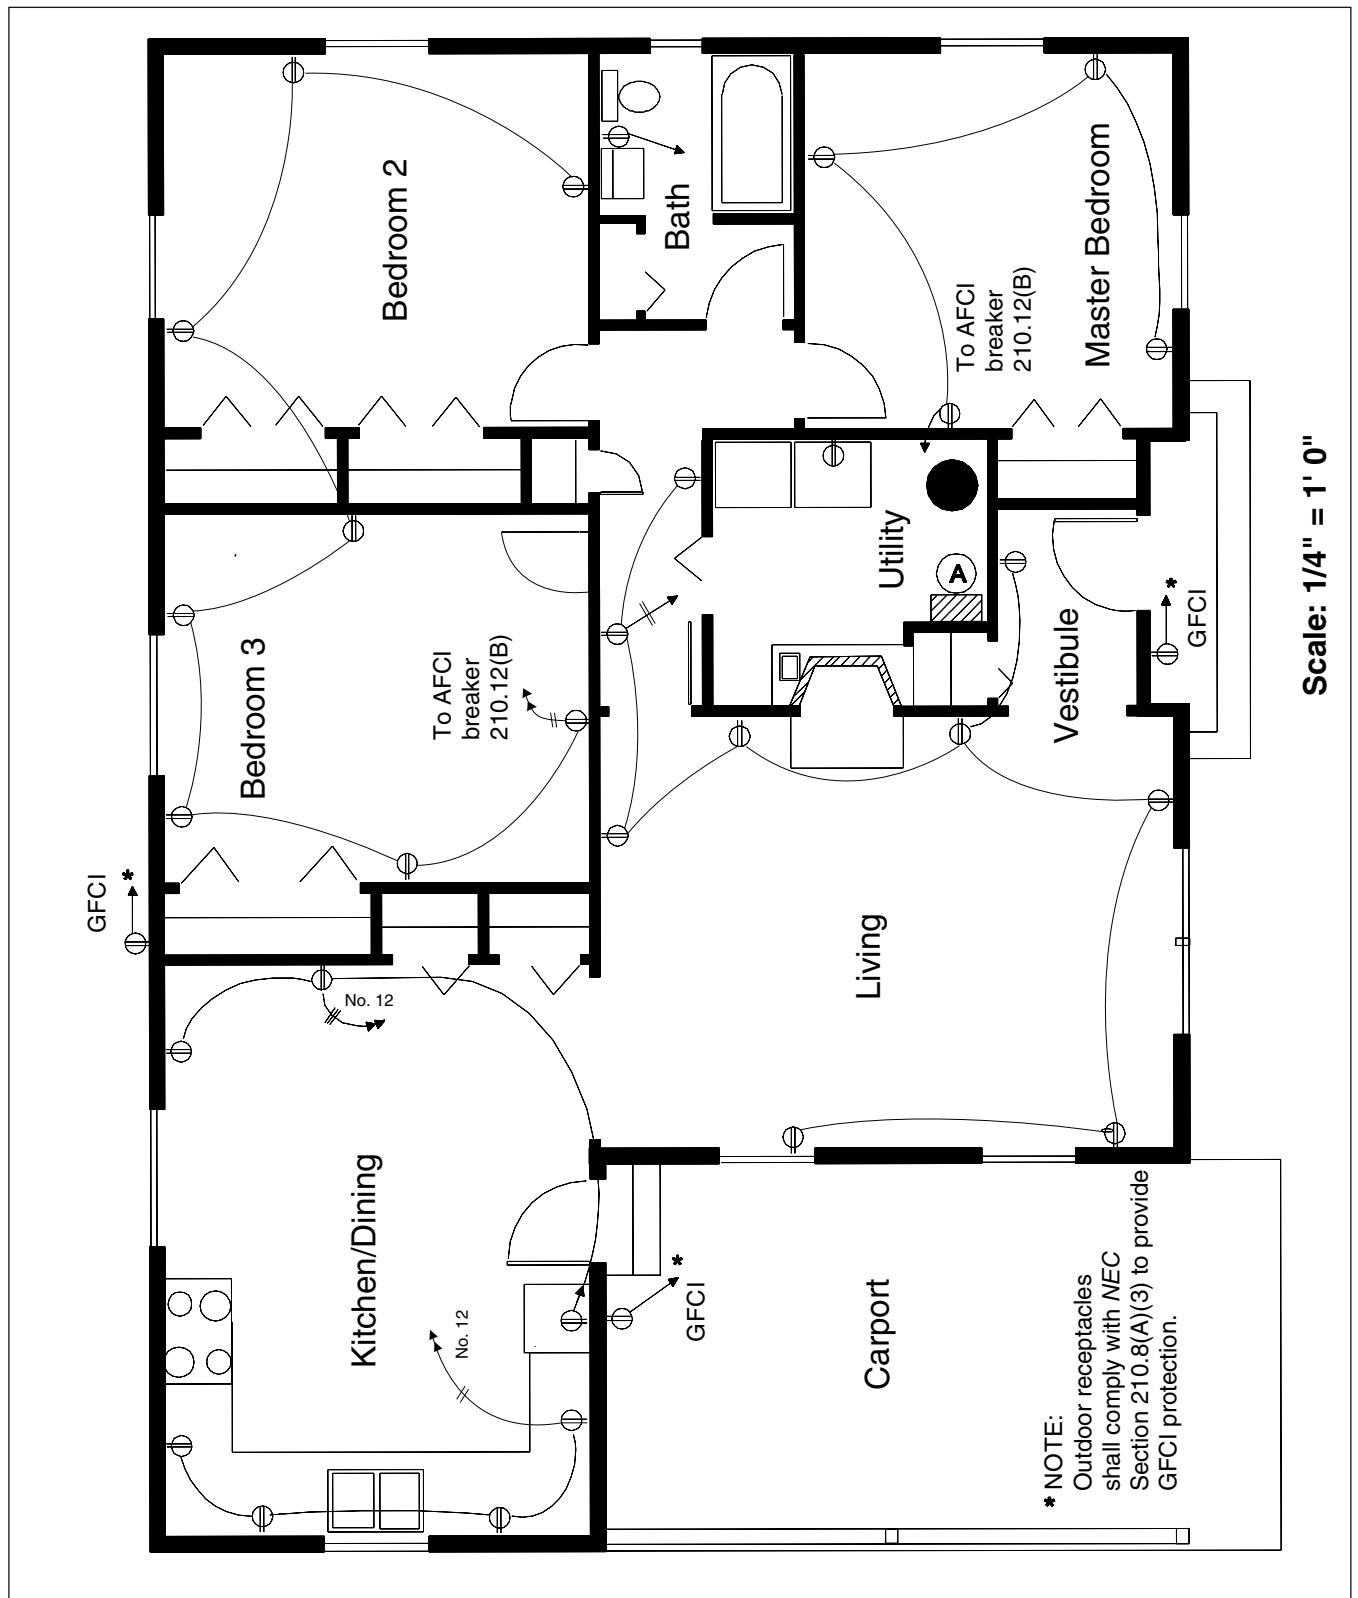

Figure 13-4: Floor plan of a residence showing the duplex receptacle layout
13-18 Look at the drawing in Figure 13-4. How many duplex receptacles are shown in the living room?
13-19 How many branch circuits are shown in Figure 13-4?
13-20 How many duplex receptacles are installed outside the building in the drawing in Figure 13-4?
13-21 To comply with the NEC, what device must be used on all three outside duplex receptacles shown on the drawing in Figure 13-4?
A ground-fault protector is indicated by notes on the drawing in Figure 13-4. See Section 210.8(A)(3) of the NEC.
13-22 To what scale is the floor plan of the residence in Figure 13-4 drawn?